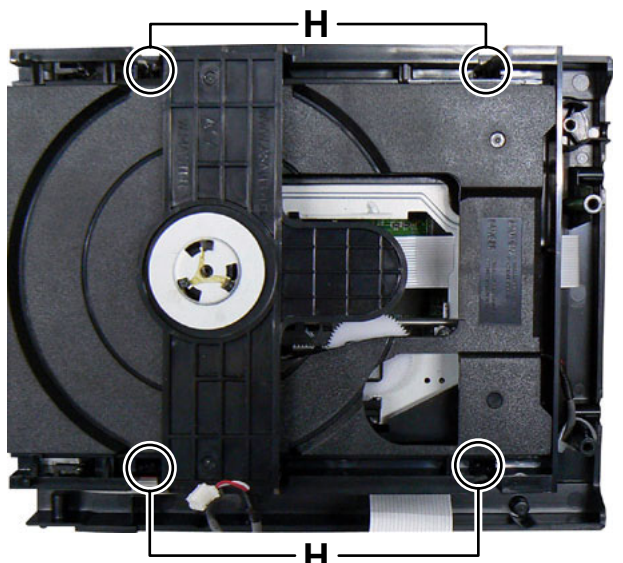

Fig.8
- (2) Remove the four screws **H** attaching the CD mechanism. (See Fig.8)